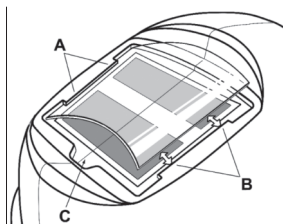

Figure 1
Replacing Front Cover Lens: Replace the front cover lens if it is damaged – cracked, soiled or pitted. Place your finger or thumb into recess (C) at the bottom edge of the cover lens and flex the lens upwards until it releases from the edges marked A and B. (Refer to figure 1). Use only the replacement front cover lenses specified in this manual.